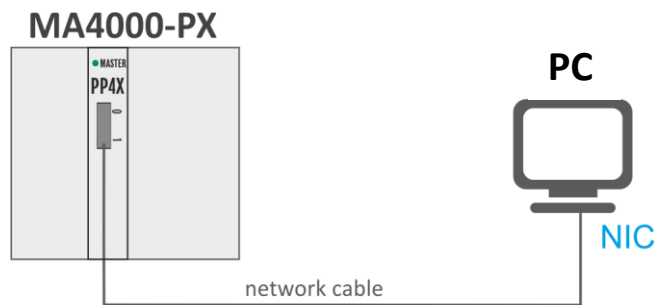

Fig. 16—Connecting access node to PC with the network cable
Step 1. Connect the network cable to the **Gigabit Ethernet** port 0 or 1 (RJ-45 connector) of the PP4X master module ('Master' LED indicator should be solid green) and to the PC's network card, see Fig. 16.